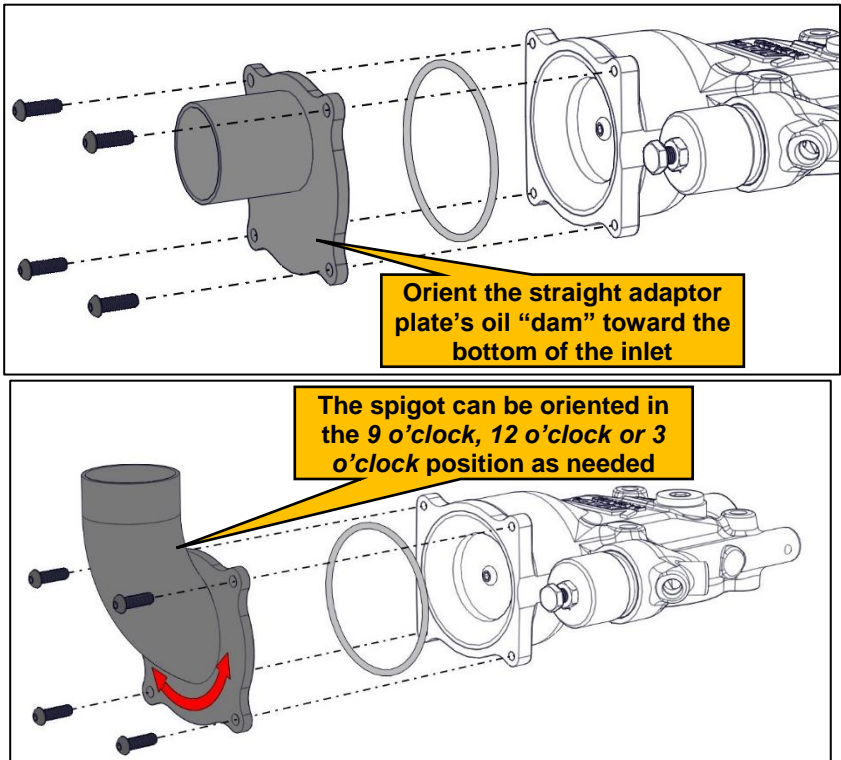

Figure 4 – Install the new filter plate
- Apply Loctite 242 (blue) to the button head fasteners and secure the filter plate to the inlet (Figure 4).